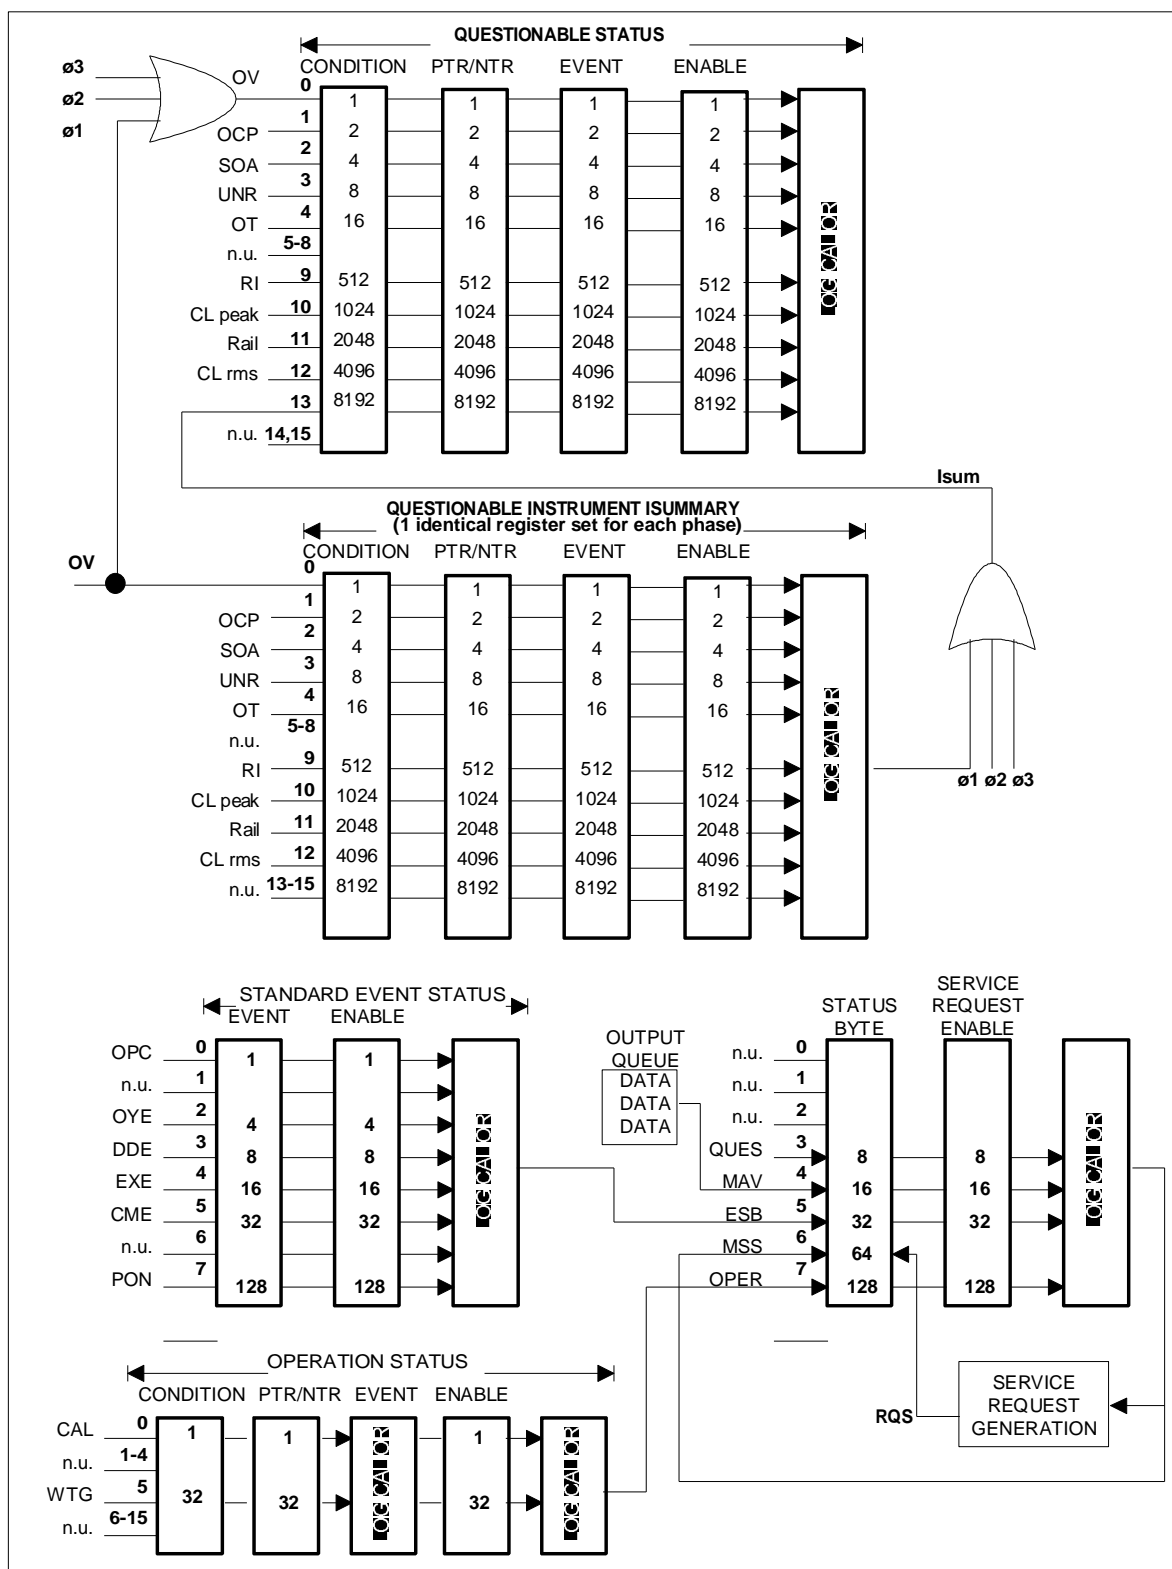

Figure 7-1: Status Register Model.
Figure 7-1 shows the status register structure of the AC Source. Table 7-2 defines the status bits. The Standard Event, Status Byte, and Service Request Enable registers and the Output Queue perform standard IEEE-488 functions as defined in the IEEE 488.2 Standard Digital Interface for Programmable Instrumentation. The Operation Status, Questionable Status, and Questionable Instrument Summary Status registers implement functions that are specific to the AC source.
The Questionable Status registers record signals that indicate abnormal operation of the AC source. As shown in Figure 7-1, the group consists of the same type of registers as the Status Operation group.
**Note:** If the AC source is in the three-phase mode, each signal that is fed into the Questionable Status Condition register is logically-ORed from three corresponding status signals that originate from each phase. Figure 7-1 illustrates this for the OV bit; the same illustration also applies to the other bits in the Condition register.
Although only one group of Questionable Instrument Isummary Status registers is shown in Figure 7-1, there are actually three identical register groups. With the exception of bit 13, the register structure is the same as the Questionable Status group. These three register groups monitor the status signals of each individual phase of the three-phase AC source. To determine which phase of the AC source is currently selected, use:
This group consists of an Event register and an Enable register that are programmed by Common commands. The Standard Event register latches events relating to interface communication status (see Figure 7-1). It is a read-only register that is cleared when read.